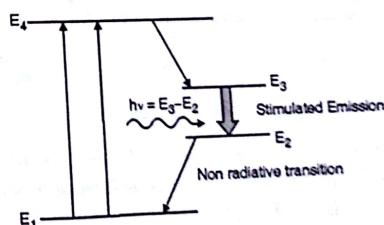

Fig. 4.7.4 : Stimulated emission in 4 level scheme
- A photon with energy $h\nu = E_3 - E_2$ triggers stimulated emission as shown in Fig. 4.7.4.